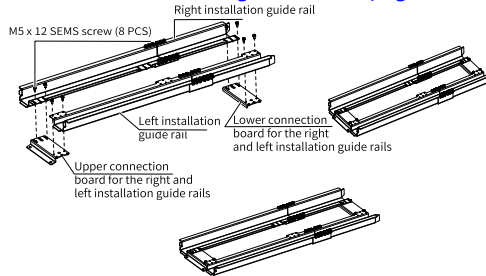

Figure 5-8 Assembling guide rails
a. Assemble the guide rail, as shown in "Figure 5-8" on page 108.